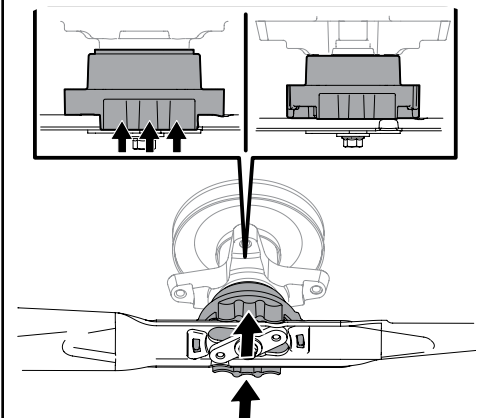

Figure 4-10
- Push the blade upward against the blade adapter until the collar above rises. See Figure 4-10.